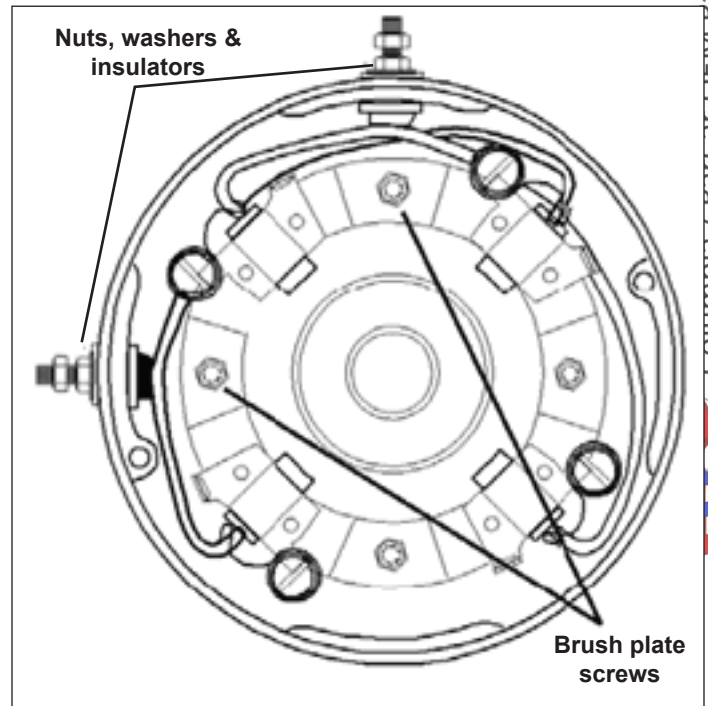
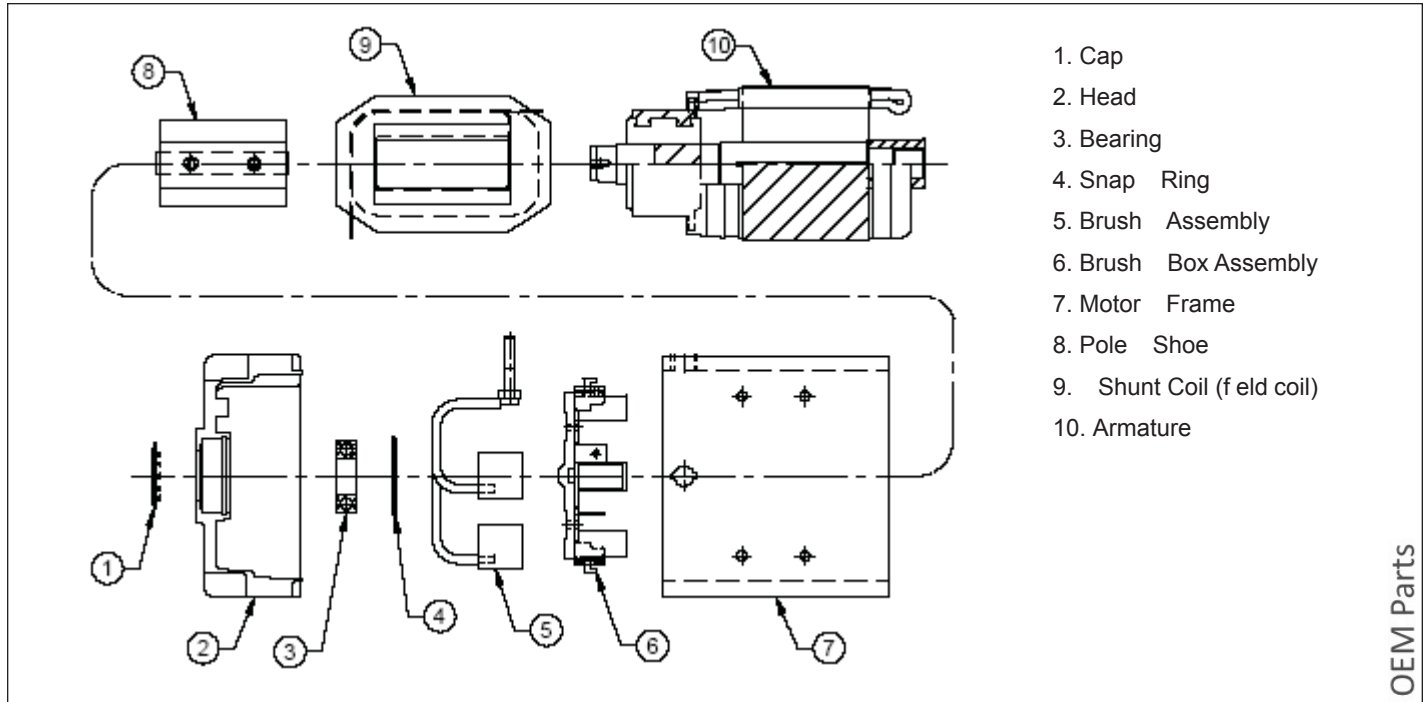
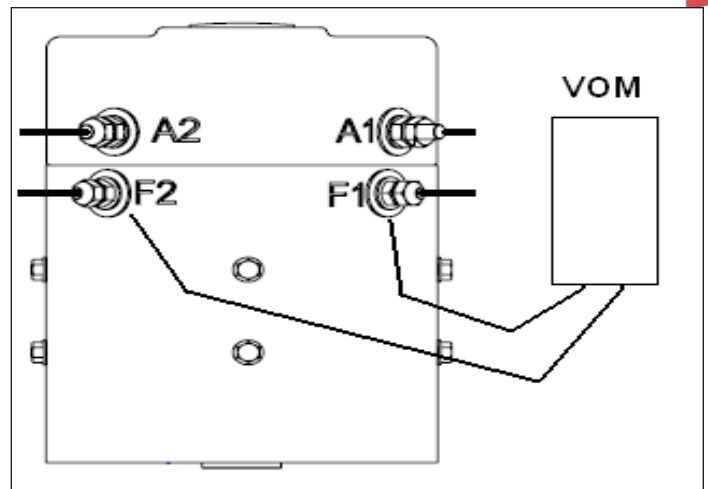

Figure 10-7. Brush Box and Brushes
Figure 10-9. Traction Motor
Figure 10-14. Testing for Continuity Between Motor Frame and Field Coil
- Remove 4 brush plate screws (Figure 10-7). Push brush terminal studs through, into the center of the head as the brush box, brushes and terminal assemblies are removed. (See exploded view Figure 10-9).
Brushes should be inspected for uneven wear and signs of overheating, such as discolored brush leads and brush springs. Check brush box for physical damage. Make sure brush holders are not loose on the brush box assembly. See Figure 10-9.
Do not remove the field coils (9, Figure 10-9), from the motor frame unless it is absolutely necessary for repair. Removal and re-installation could shorten field coil life.
There should be no continuity between the frame of the motor and field coil (Figure 10-9). Set the volt ohm meter (VOM) to measure Ohms. See Figure 10-14.